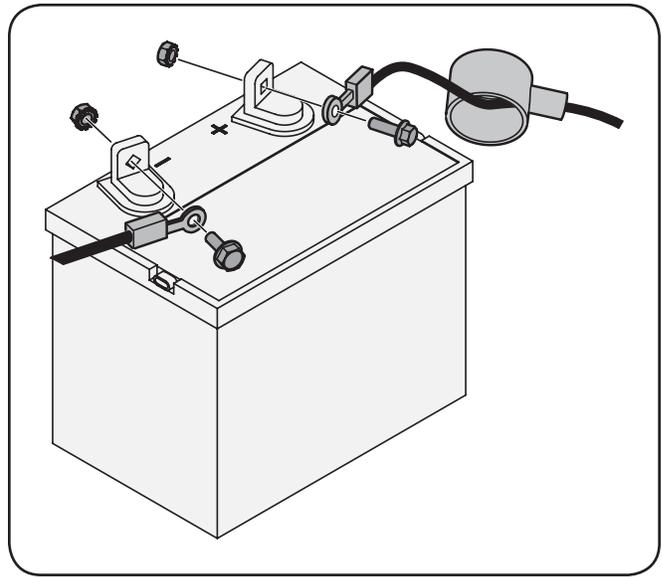

Figure 3-8
- Remove the plastic cover, if present, from the positive battery terminal and attach the red cable to the positive battery terminal (+) with the bolt and hex nut. See Fig. 3-8.
- Remove the plastic cover, if present, from the negative battery terminal and attach the black cable to the negative battery terminal (-) with the bolt and hex nut. See Fig. 3-8.